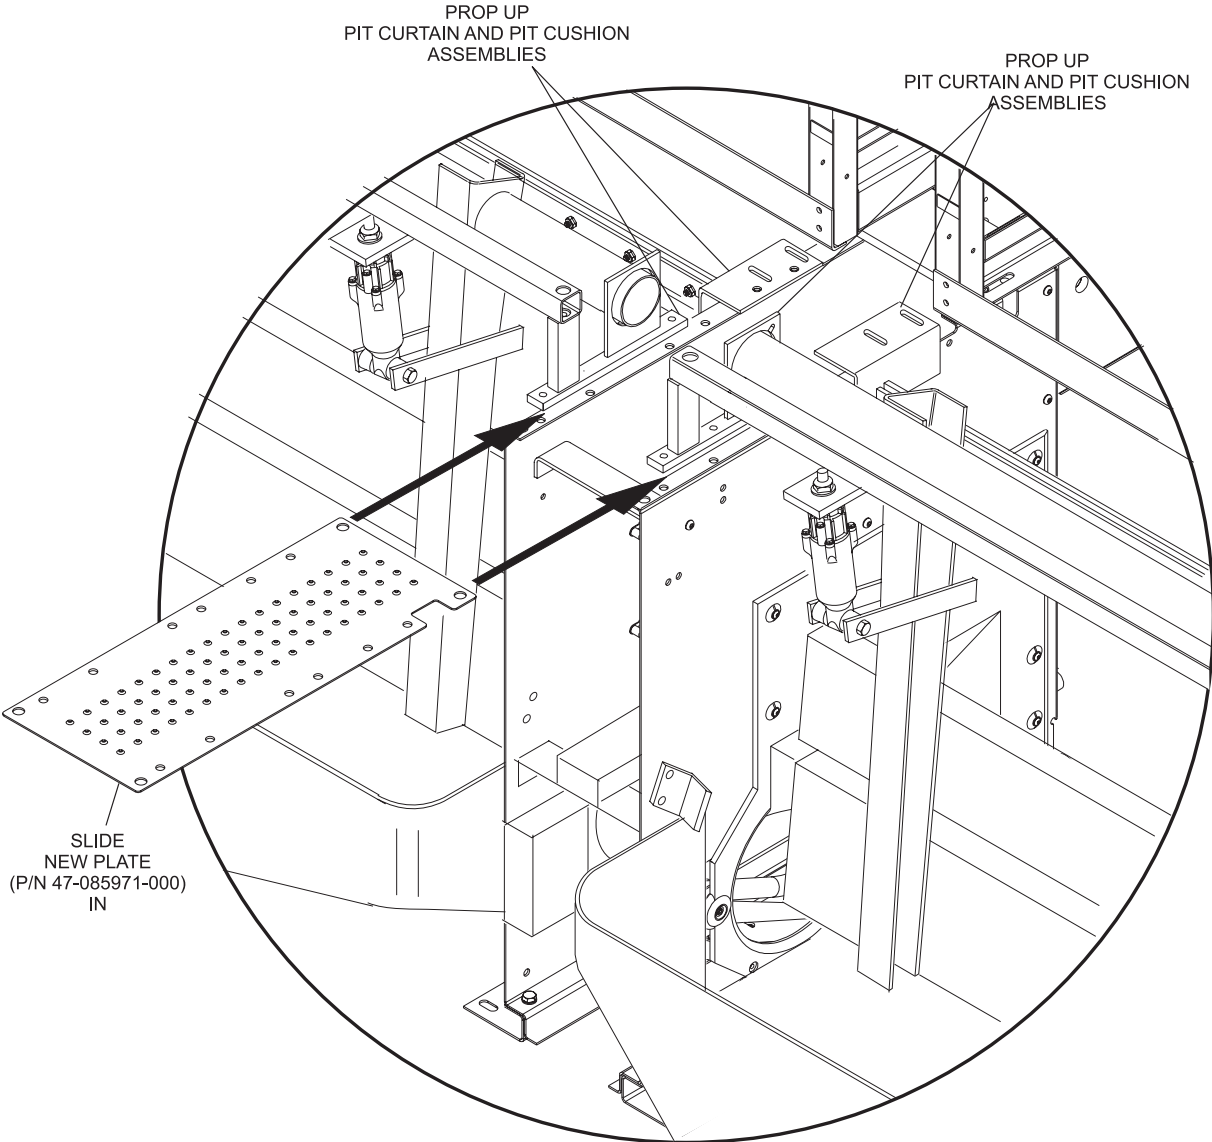

Figure 4
1. Slide new top plate (P/N 47-085971-000) into position. Refer to *Figure 4*.